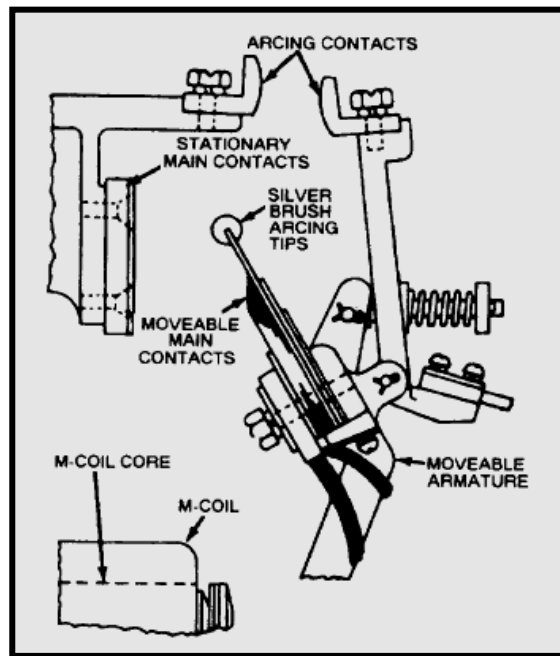

Figure 11-33.— Detailed view of arcing contacts.
The shunt contactor shown in figure 11-33 uses a second set of contacts (1) to reduce the amount of arcing across the main contacts (5 and 6) when closing. The numbers that are in parentheses are indicated on the figure.